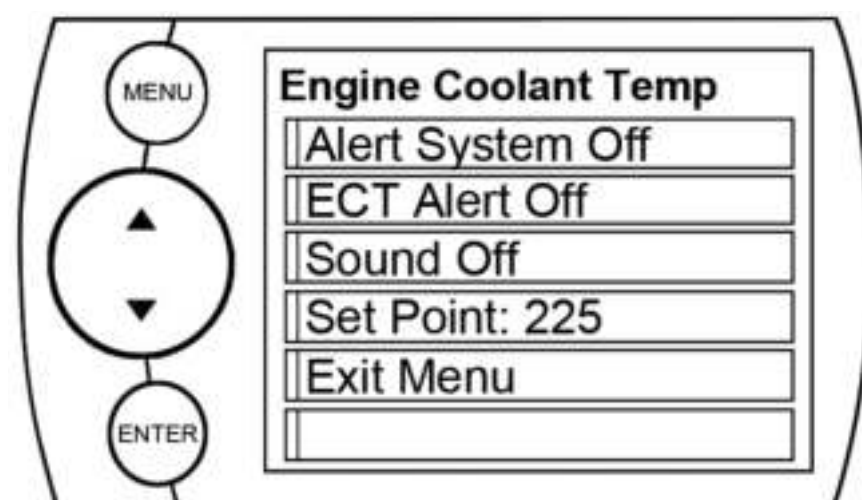

Figure 18
The Alert Options (Settings) screen (Figure 18) allows you to turn the alerts on/off both collectively and individually, and also lets you set the alert values for each of the available parameters.
1. Select a PID in the Alert Options menu and Figure 18 will appear:
NOTE: In Figure 18 the *Engine Coolant Temperature PID* is being modified.